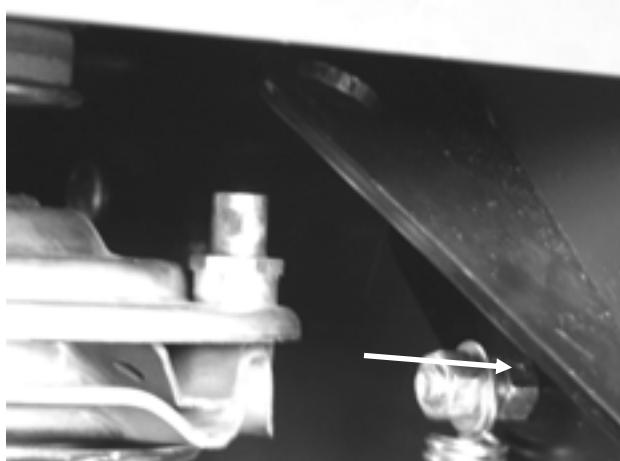

Figure 45
7. Using two 9/16" wrenches, loosen the stud bolt enough to rotate the anti-rotation bracket off the clutch **Figure 45**.